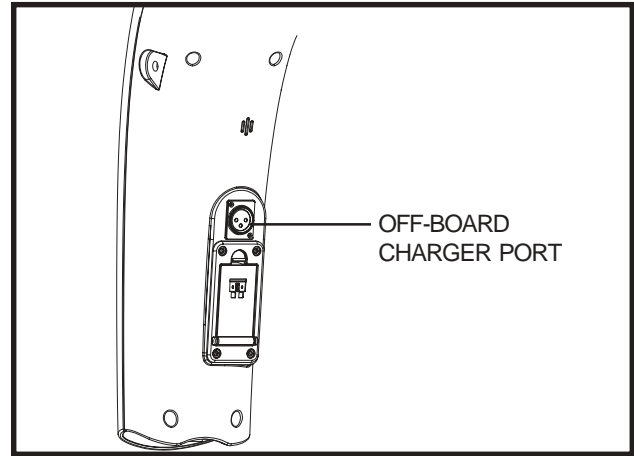

Figure 5. Off-board Charger Port (Tiller Mounted)
The off-board charger power cord plugs into this port during battery charging. The off-board charger port will be located on the tiller or on the right battery box depending on which scooter model you own. See figures 5 and 5A.
5. Plug the 3-pin charger power cord into the off-board charger port. **See figures 5 and 10A.**